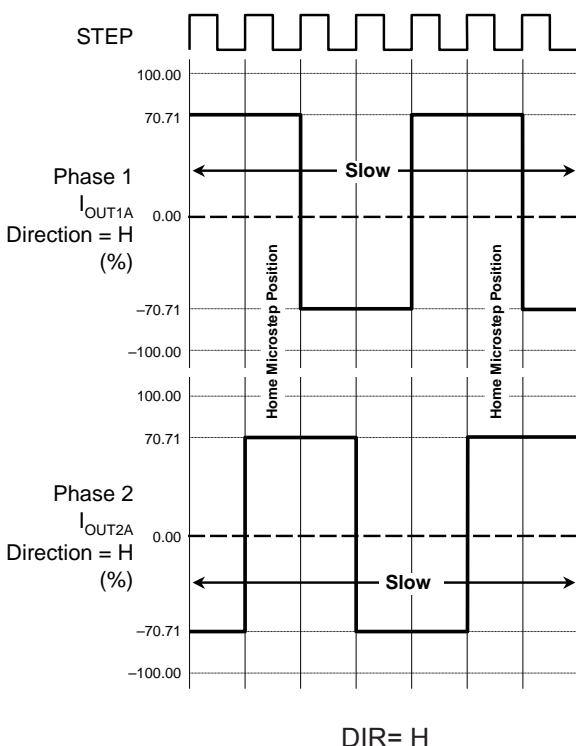

Figure 8. Decay Mode for Full-Step Increments
At power-on or reset, the translator sets the DACs and the phase current polarity to the initial Home state (shown in figures 8 through 11), and the current regulator to Mixed Decay Mode for both phases. When a step command signal occurs on the STEP input, the translator automatically sequences the DACs to the next level and current polarity. (See table 2 for the current-level sequence.) The microstep resolution is set by the combined effect of the MS1 and MS2 inputs, as shown in table 1.
**Mixed Decay Operation.** The bridge operates in Mixed decay mode, at power-on and reset, and during normal running according to the ROSC configuration and the step sequence, as shown in figures 8 through 11. During Mixed decay, when the trip point is reached, the A4982 initially goes into a fast decay mode for 31.25% of the off-time,  $t_{OFF}$ . After that, it switches to Slow
**Reset Input (RESET).** The  $\overline{\text{RESET}}$  input sets the translator to a predefined Home state (shown in figures 8 through 11), and turns off all of the FET outputs. All STEP inputs are ignored until the  $\overline{\text{RESET}}$  input is set to high.
**Mixed Decay Operation.** The bridge operates in Mixed Decay mode, depending on the step sequence, as shown in figures 8 through 11. As the trip point is reached, the A4985 initially goes into a fast decay mode for 31.25% of the off-time.  $t_{\text{OFF}}$ . After that, it switches to Slow Decay mode for the remainder of  $t_{\text{OFF}}$ . A timing diagram for this feature appears on the next page.